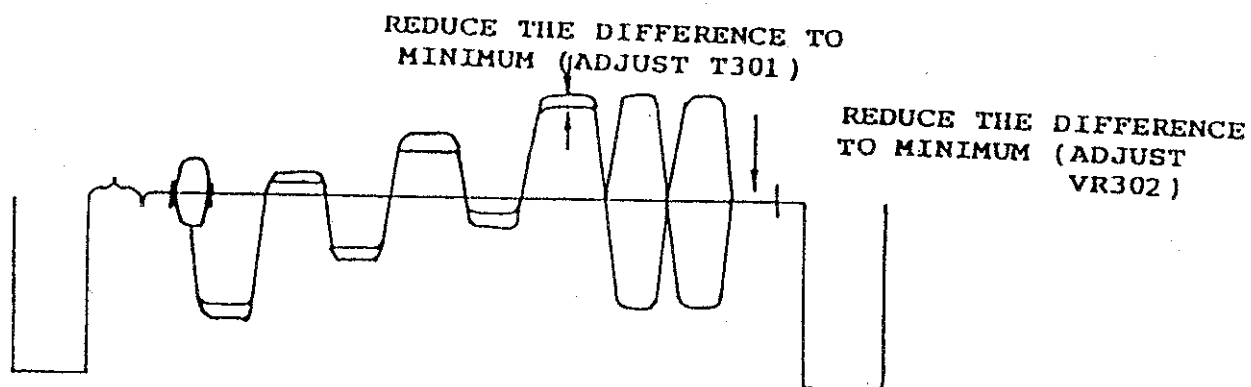

Fig.6
- (1) Receive Philips Pattern.
- (2) Connect Oscilloscope to TP305.
- (3) Set color control to maximum position.
- (4) Adjust T301, CT301 and VR302 to obtain the waveform as Fig.6.